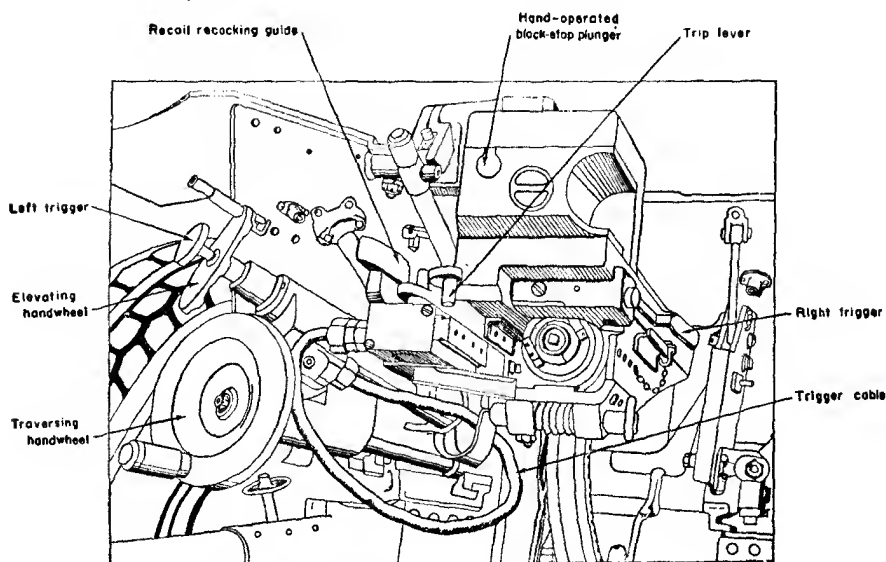

Figure 60.—Close-up of rear of 3.7-cm Pak
(2) *To load and fire.*—To open the breech, set the safety catch at *Feuer* ("fire"), press the hand-operated block-stop plunger (top left of the rear face of the breech ring) and turn the breech-mechanism lever clockwise (see figs. 60 and 61). The plunger is pressed back automatically by inertia when the gun is fired.